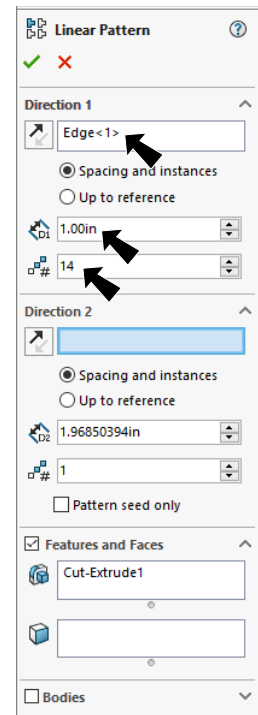

Fig. 17
Step 3. In the Linear Sketch Property Manager set: under Direction 1, **Fig. 17**